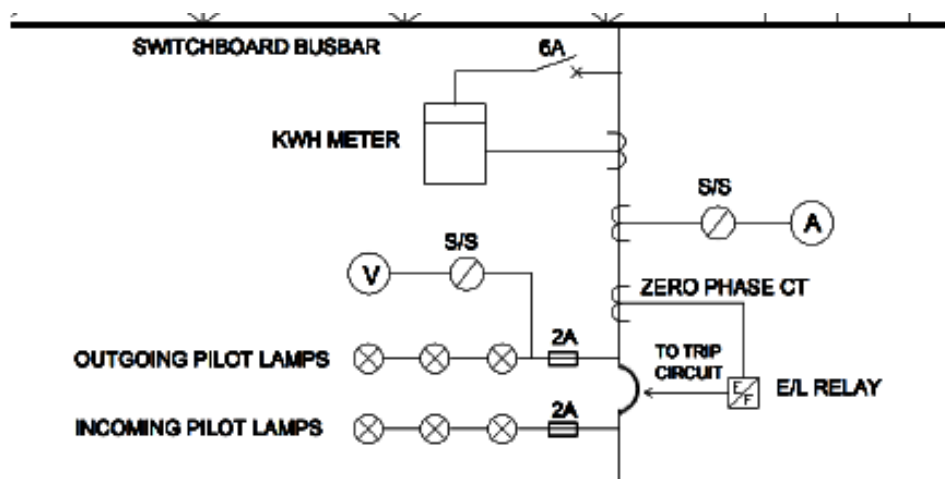

Figure 11-6 – Incoming accessories when $100\text{ A} < I_r < 300\text{ A}$
- ❖ **Figure 11-6** – for the incoming current more than 100 Amp, but less than 300 A, i.e. $100 \text{ A} < I_T < 300 \text{ A}$, and
For incoming set-up as per Figure 11-6;